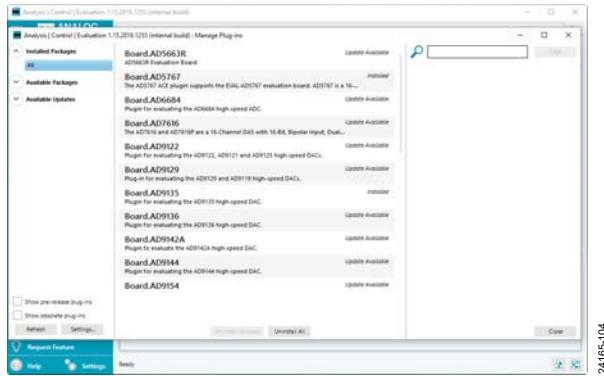

Figure 5. ACE Manage Plug-ins Window
2. In the left pane, click **Plug-in Marketplace**. The **Manage Plug-ins** window opens, as shown in Figure 5.